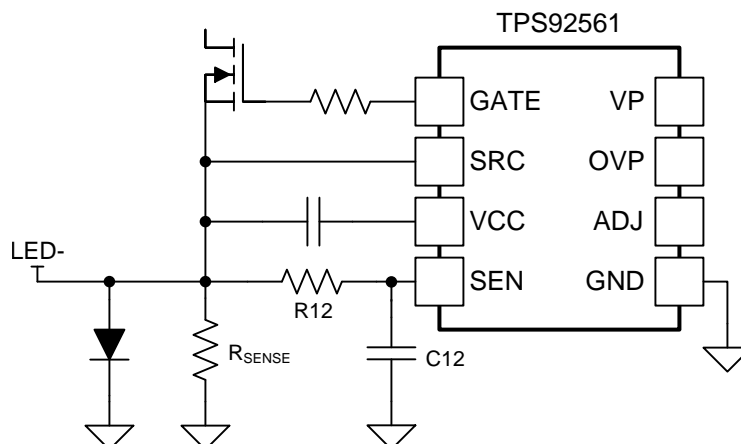

Figure 13. Current Sense
**Figure 13** shows a diode in use in parallel with the  $R_{SENSE}$  resistor. The diode clamps the SEN pin voltage when the boost converter is first powered up. Because a boost converter utilizes a diode connected to the output, the output capacitor is charged immediately when power is applied.